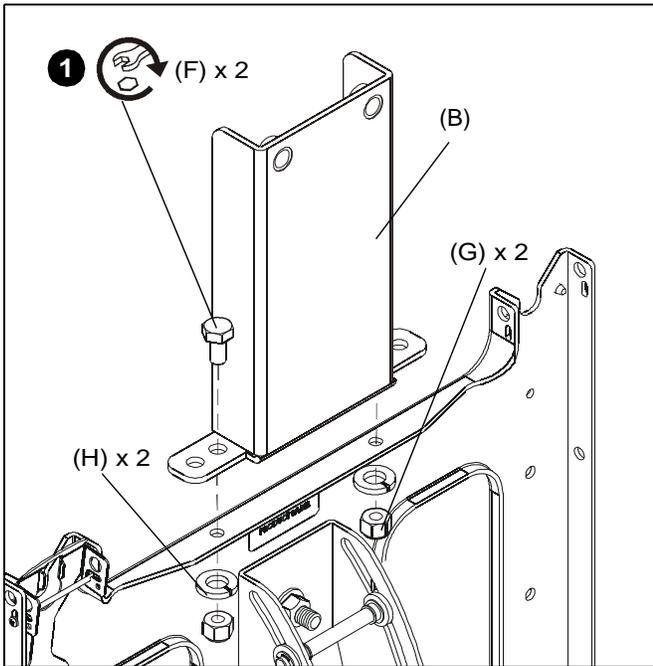

Figure 1
- Using two 1/4-20 x 1/2" hex bolts (F), two 1/4" lock washers (H), and two 1/4-20 hex nuts (G), secure height-adjustment plate (B) to top of cart or faceplate. (See Figure 1)